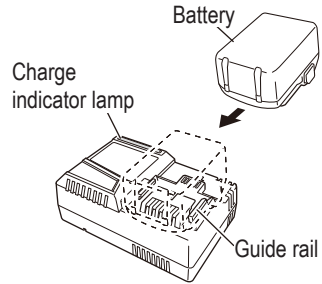

Fig. 11
2. Insert the battery to the battery charger. Insert the battery into the battery charger as shown in Fig. 11.